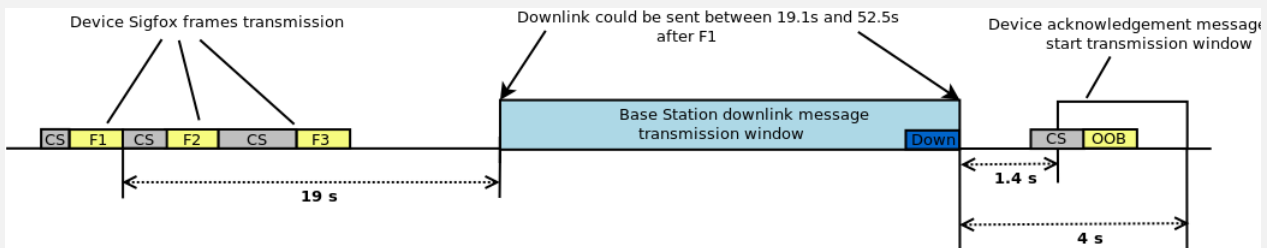

Figure 2: Downlink Timings (last chance to receive downlink frame case)
**Specification Description:** After receiving the downlink frame, *Device* or *Modular Design* has to wait 1.4 s and no later than 4 s before sending the acknowledgement frame (OOB), following the implementation described in the figure 2. The OOB Frame may not be send if the Carrier Sense does not allow it.